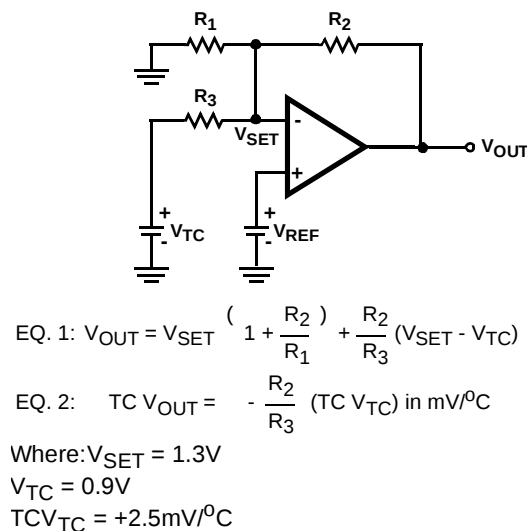

FIGURE 9. GENERATING NEGATIVE TEMPERATURE COEFFICIENTS
- This output has a positive temperature coefficient. Using it in combination with the inverting input of the regulator at V_{SET} , a negative coefficient results in the output voltage. See Figure 9 for details. Pin will not source current.
Producing Output Voltages with Negative Temperature Coefficients -The ICL7663S has an additional output which is 0.9V relative to GND and has a tempco of +2.5mV/°C. By applying this voltage to the inverting input of amplifier A (i.e., the V_{SET} pin), output voltages having negative TC may be produced. The TC of the output voltage is controlled by the R_2/R_3 ratio (see Figure 9 and its design equations).